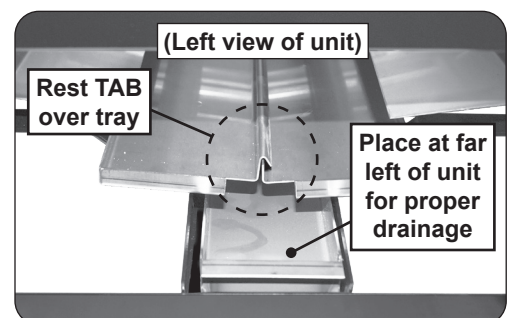

Fig. 36-3 Drip tray placement detail
- The bottom drip tray must be positioned to the utmost left of the grill to catch any contents draining from the top trays. See Fig. 36-3.
- Ensure the top tray with the tab is properly placed over the other top tray. See Fig. 36-3.